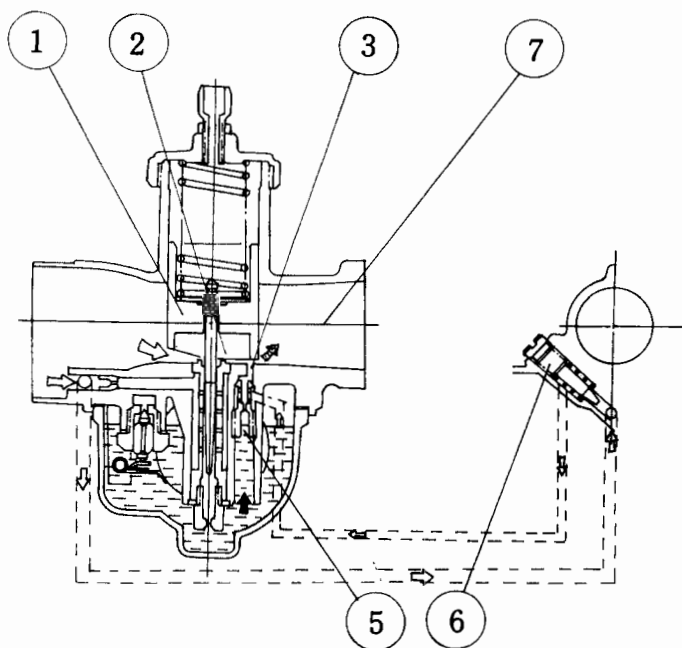

Fig. 4
The mixture is again mixed with fuel coming from the bypass and is drawn into the pilot outlet to mix with air flowing through the main bore (7). The fuel mixed with air at this stage then goes into the engine. When the throttle valve is opened slightly during low speed operation, the pilot outlet alone cannot supply the required fuel and the shortage has to be made up with fuel injected from the bypass. The adjustment of the mixture ratio during this stage is made by the pilot jet and the air screw, in the case of a two-hole type fuel system (fig. 3). While at low speed operation if full throttle is initiated a similar shortage of fuel exists and during this transition from low to medium or low to high the fuel again has to be injected from the bypass until enough (vacuum) can be created to draw fuel from the main fuel system. There is also a one-hole type low speed fuel system mainly used for carburetors having a small main bore (fig. 4). The process of producing the air-fuel mixture and of adjusting the mixture ratio are the same as in a two-hole type low speed system.